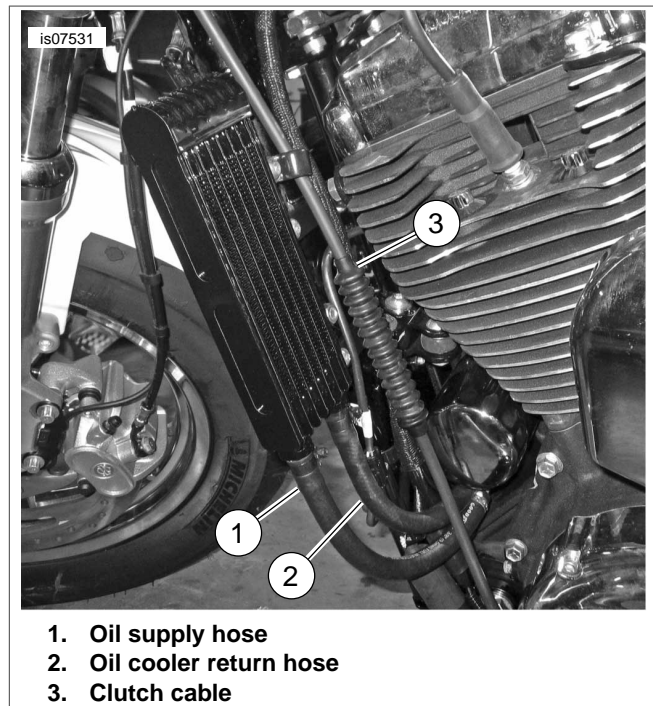

Figure 3. Oil Cooler Hose Routing
- See Figure 3. When installing the oil cooler and connecting the oil lines, make sure that the clutch is routed properly.
11. Install P-clamp (19) over the clutch cable and wiring harness.
12. Loosely attach oil cooler (10) to the mounting bar (7) upper hole using screw (5), washer (6), P-clamp (19) and nut (4).
13. Loosely attach oil cooler (10) to the mounting bar (7) lower hole using screw (5), washers (6) and nut (4).
14. Connect oil return hose (14) to the inboard connection of oil cooler (10) with worm clamp (15).
15. Connect oil return hose (14) to hose fitting (16) with worm clamp (15).
16. Connect oil cooler supply hose (8) to the outboard connection of oil cooler (10) with worm clamp (15). Orient hose to allow clearance between oil pressure switch and oil cooler return hose.